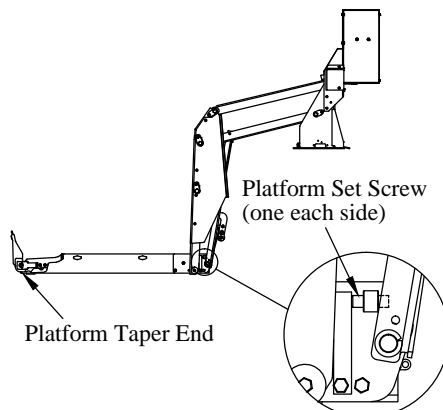

Figure 24: Platform.
3. **Adjust** the platform set screws until the platform taper end just rests on the ground (Figure 24).